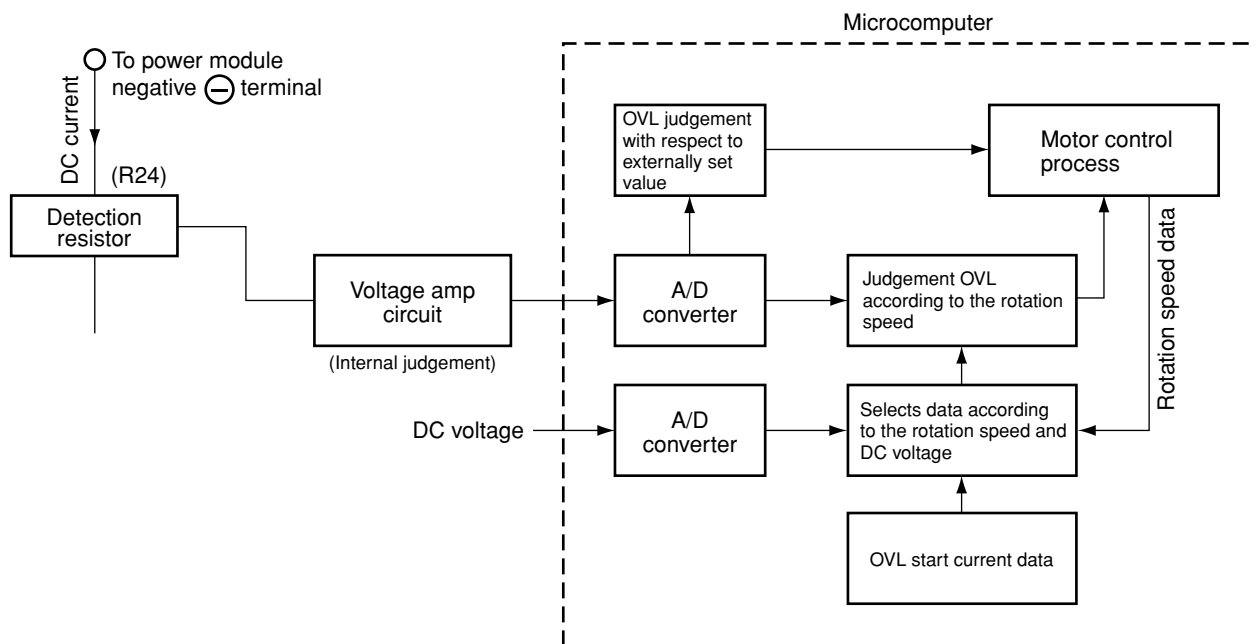
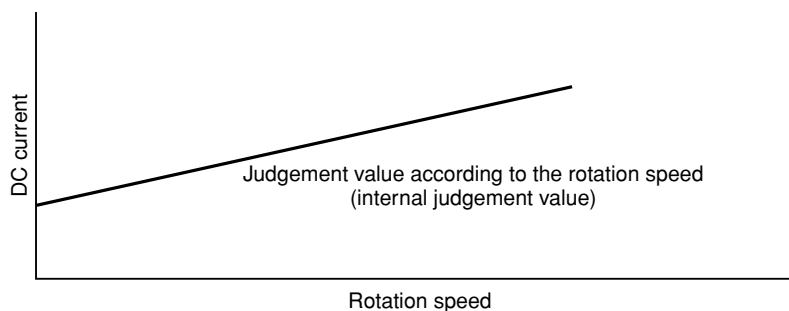

Fig. 8-4 Overload Control System Configuration
Fig. 8-5
- As shown in diagram, if current exceeding 21A (27A for RAC-50NH5) flows, voltage at point (A) recognized by detecting resistor is input to pin (10) of SPM2 – HIC, and voltage divided by R41 and R43 is input to pin (9) of IC1. Since threshold of IC1 is exceeded in this case, Lo signal is input from pin (8) (Voltage at point (B)). When Lo signal is input to pin (17) of microcomputer, microcomputer stops drive output.
(2) Overload control circuit (OVL control circuit)
- Fig. 8-4 shows the overload control system configuration and Fig. 8-5 is a characteristic diagram of overload judgement values. There are two judgement methods-external judgement which compares the externally set value with the DC current value regardless of the rotation speed and internal judgement which compares the set value that varies according to the rotation speed programmed in the microcomputer software with the DC current value.